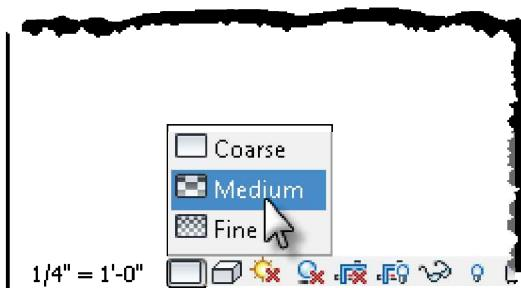

FIGURE 5-2.15 Detail Level; set to medium
34. Click on the **Detail Level** icon in the lower-left corner of the drawing window (Figure 5-2.15).